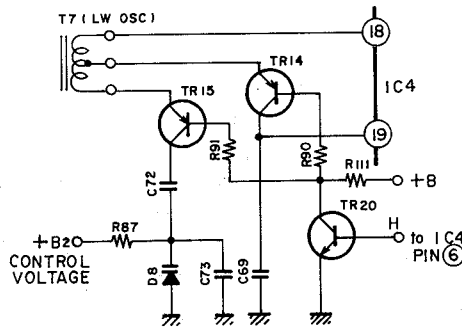

Fig. 6-8 LW OSC
- 2) For LW, the pin ⑥ of IC4 is at “H” level and the reverse operation to Paragraph 1 is conducted. This means T7, C69, C72, C73 and D8 are connected to create the LW OSC state (refer to Fig. 6-8).